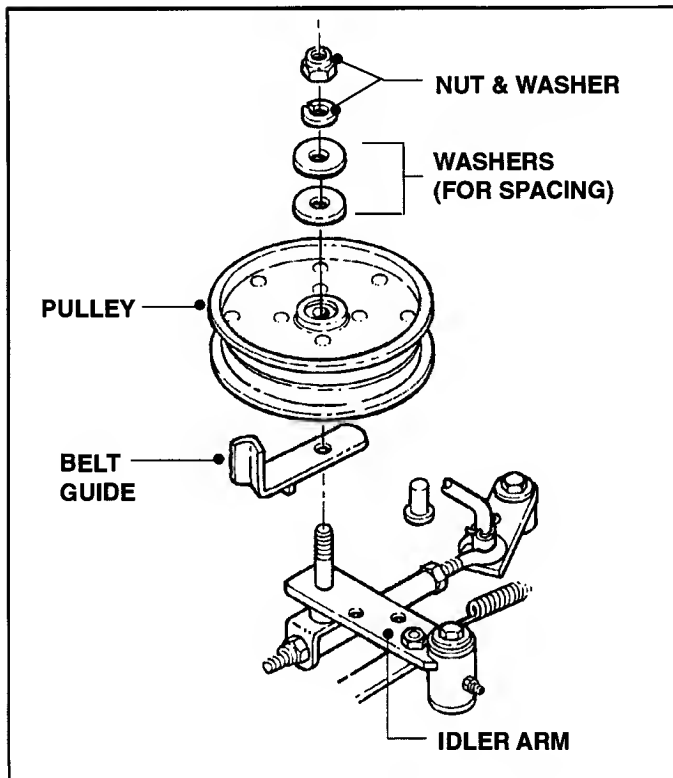

FIGURE 5.4
5. The Mower Deck Idler Pulley must be repositioned when in the "Low Position" height range. Remove Nut securing Idler Pulley, the 2 Washers, Idler Pulley and Belt Guide. Reassemble by placing the 2 Washers beneath Belt Guide - against the Idler Arm. Hold Belt Guide at 45° angle when securing Retaining Nut. See Figure 5.4.